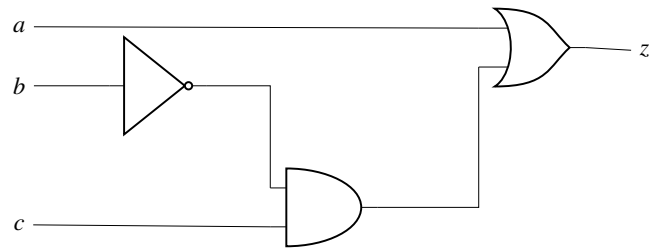

Fig. 3.35
53. Consider the Boolean function  $Z(a, b, c)$ . Which one of the following minterm lists represents the circuit given below in Fig. 3.35?